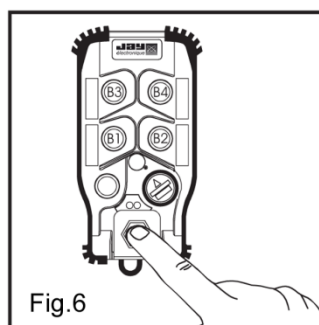

Fig.6
- 6- Exit the « frequency » programming mode by pressing the emergency stop palmswitch (Fig. 6).
- 6- Exit the « activity monitoring » duration programming mode by pressing the emergency stop palmswitch (Fig. 6).
- 7- Exit the « lock-unlock » configuration mode by pressing the emergency stop palmswitch (Fig.6).